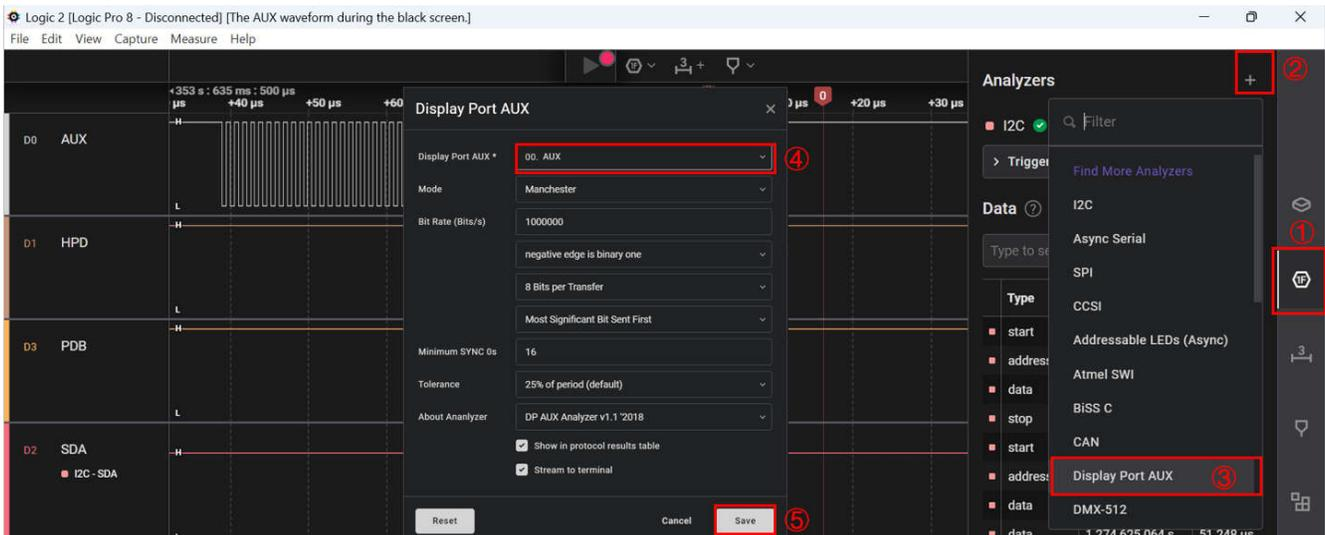

Figure 4-7. Steps to Apply AUX Extension on Logic 2
4. Set the proper channel to analyze (for example, Channel 00 in Figure 4-7).